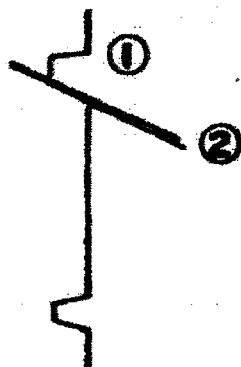

Fig. 15
- (1) Set the low voltage power supply to 4.2 ± 0.05 V.
- (2) Turn the battery checker ON.
- (3) The meter needle should align as shown in Figure 15.